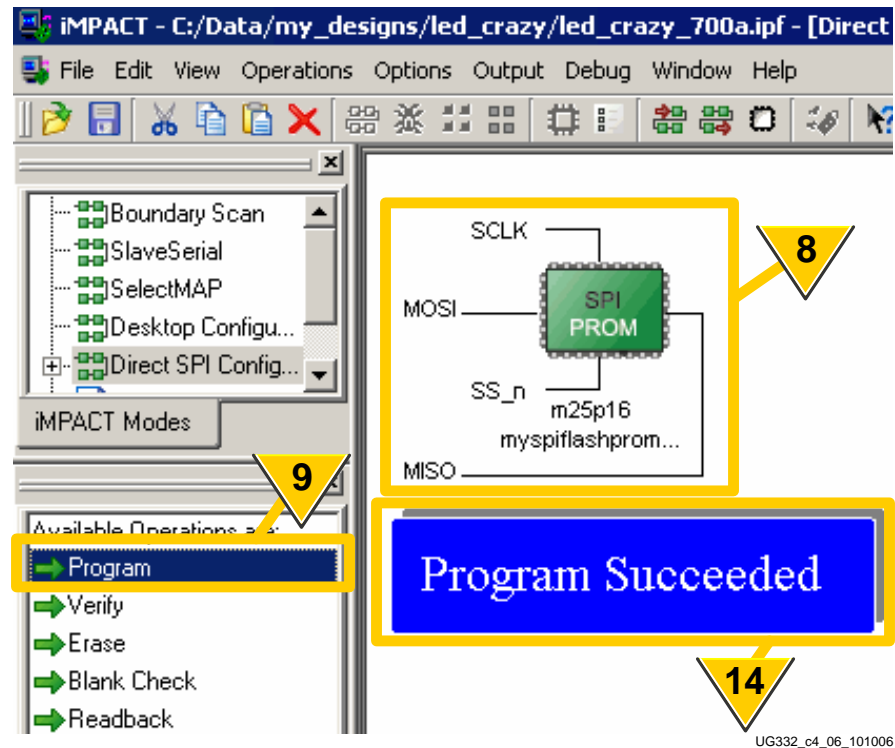

Figure 4-19: Directly Program Supported SPI Flash PROM.
8. The iMPACT software displays the selected SPI Flash PROM, as shown in Figure 4-19.
14. The iMPACT software indicates successful programming, as shown in Figure 4-19.